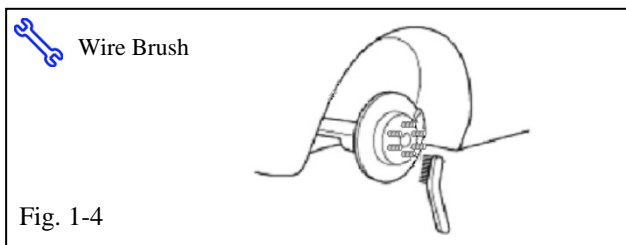

Fig. 1-4
- If required, remove any corrosion on the mounting surface of the vehicle with a wire brush. Wear safety glasses to protect against any debris. (Fig. 1-4)